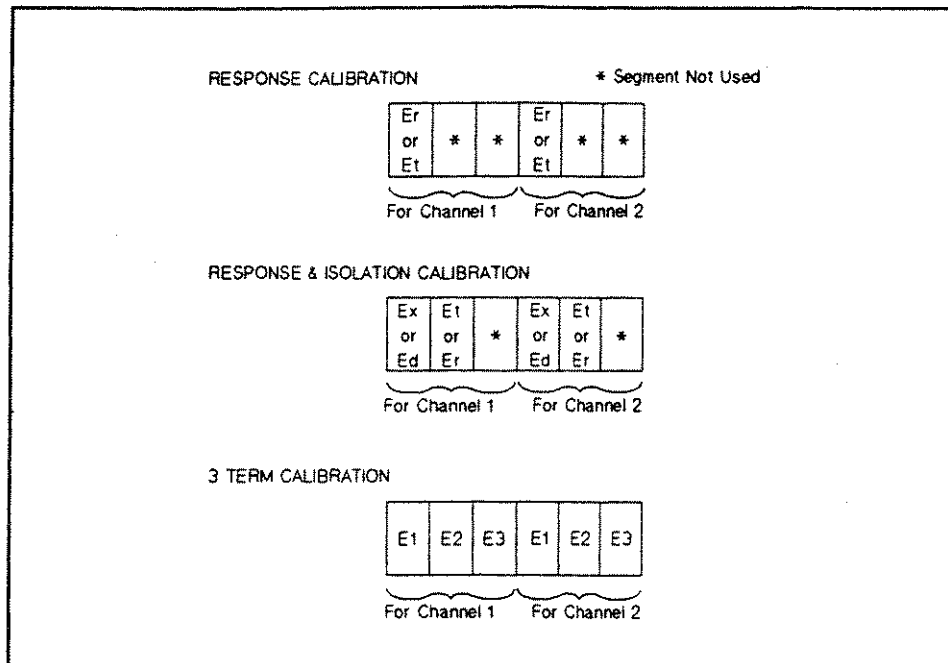

Figure 14-2. CAL Data Group Structure
- *CAL* consists of six data segments as shown in Figure 14-2. The first half of the segments are for channel 1, and the second half of the segments are for channel 2. The contents of each segment depends on the type of calibration performed. (See Chapter 10.)